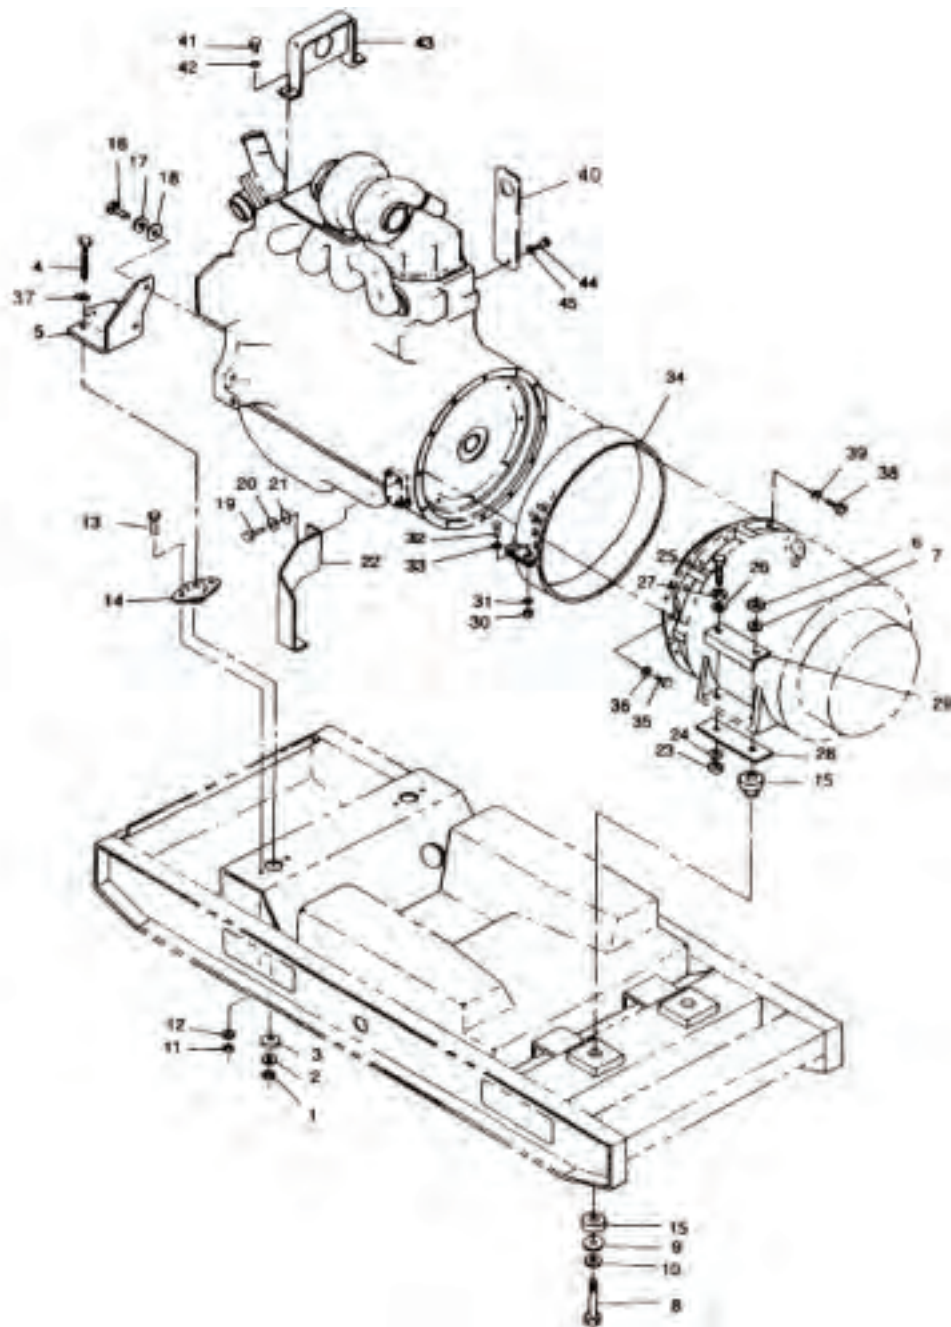

Figure 1. Engine and Generator Assembly.
1. Install engine shock mount (Figure 1, Item 14) on skid base with bolts (13), washers (12), and nuts (11).
2. Position generator shock mounts (15) in skid base.
3. Install engine mounting brackets (5) on engine with bolts (16), new lockwashers (17), and washers (18). Torque bolts to 120 ft•lbs (163 N•m).
4. Install engine support brackets (22) on engine with bolts (19), new lockwashers (20), and washers (21).
5. Install generator mount angles (29) and plates (28) on generator with bolts (25), washers (24 and 26), and nuts (23 and 27).